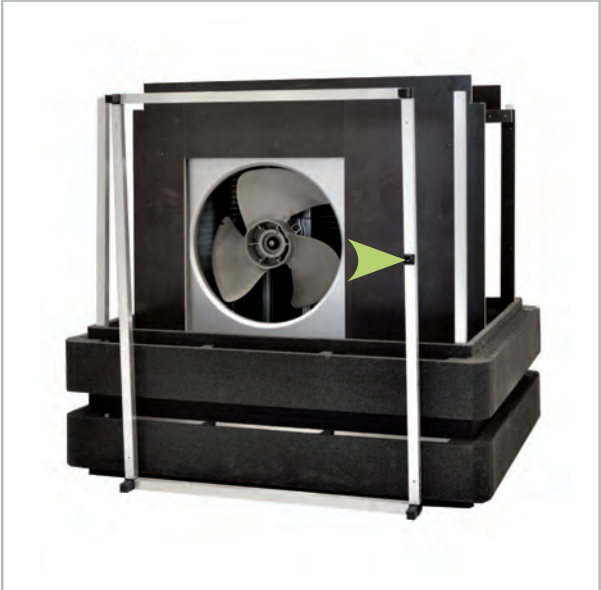

Fig. 33
- 24.** The supports to attach the buffer (⌘ 'Components on the noise protection hood' on page 24 and the top aluminium frame (⌘ 'Components on the noise protection hood' on page 24, item 7) and , item 9) must now be installed. Ensure that the top attachment point for the buffer's support is in the middle in front of the fan opening (Fig. 33).